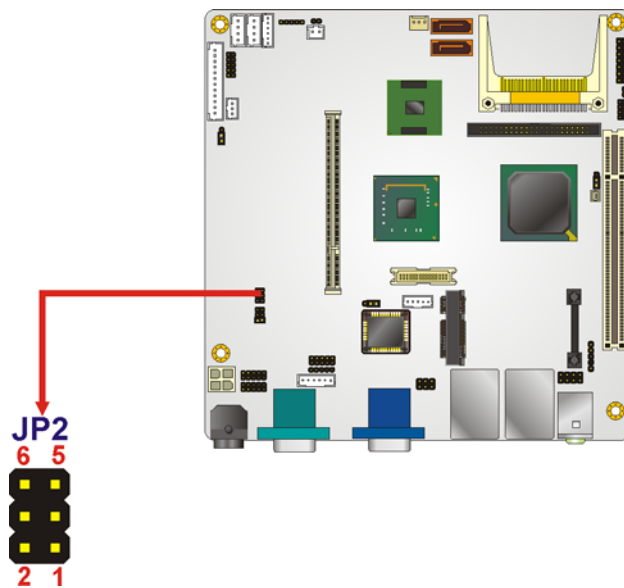

Figure 4-19: RS-422/485 Connector Pinout Locations
- CN Location:** See **Figure 4-19**